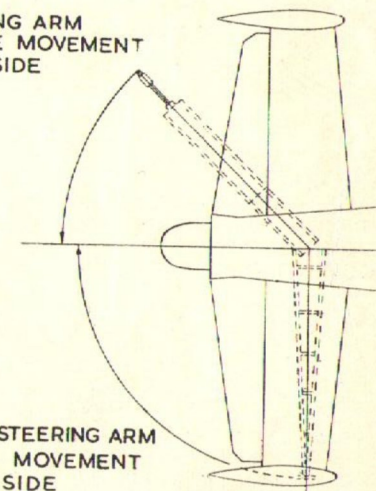

Fig. 7. Towing and steering arm—turning limitations
2. A towing bridle, Ref.No.4G/4139, is attached to the eye-bolt at the bottom of each inner shock-absorber strut (fig.3) and a tail-wheel steering arm (fig.4) is attached to the twin tail-wheel axle. Reference should be made to fig.7 for the maximum turning movement of the steering arm.